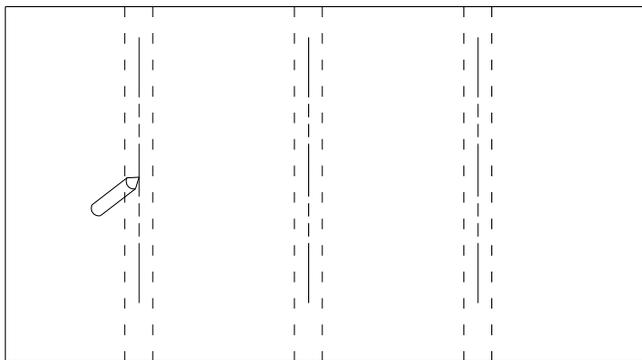

Figure 4
1. Use a high quality electronic stud finder (commercially available) to locate dead center of three adjacent wood studs spaced 16" apart. Mark the location of each stud (Figure 4). Note: If a different placement of the 44" Storm Shell is required to center the TV in a particular space, or if the wall studs are built at 20" spacing, then an Adapter Mounting Plate will be required. Please consult Item "44 Storm Shell Adapter Mounting Plate", as shown on StormshellTV.com/Products.